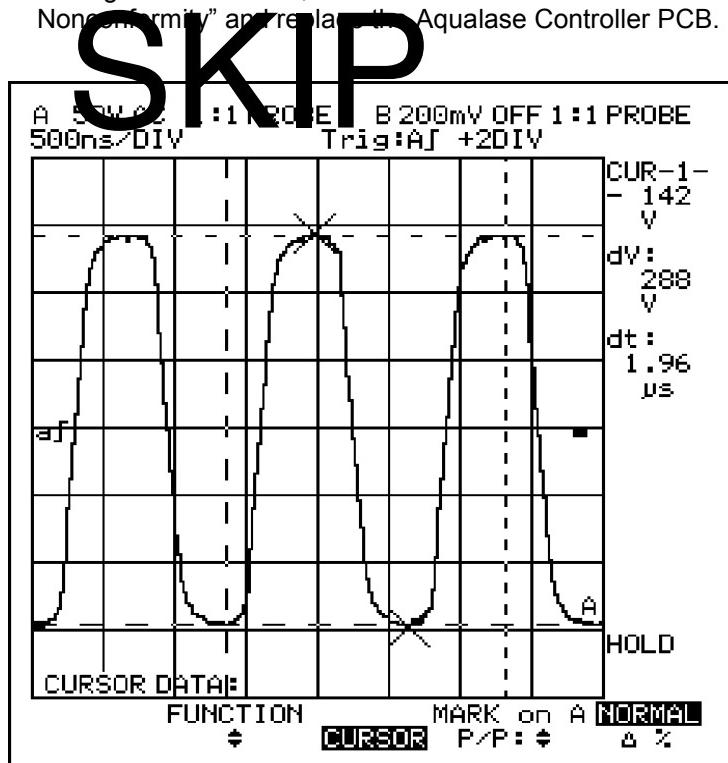

Figure 10: Aqualase Test Waveform
- 2.2.10.2.8 If Aqualase waveform has irregularities or spurious peaks and does not appear similar to Figure 10 below, record the condition as **S21002**, "Aqualase Waveform Non-conformity" and replace the Aqualase Controller PCB.